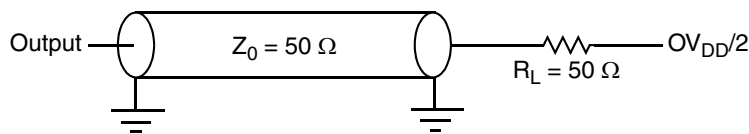

Figure 29. AC Test Load for the JTAG Interface
1. All outputs are measured from the midpoint voltage of the falling/rising edge of t_{TCLK} to the midpoint of the signal in question. The output timings are measured at the pins. All output timings assume a purely resistive 50-Ω load (see Figure 29). Time-of-flight delays must be added for trace lengths, vias, and connectors in the system.
2. The symbols used for timing specifications follow the pattern of $t_{\text{(first two letters of functional block)(signal)(state)(reference)(state)}}$ for inputs and $t_{\text{(first two letters of functional block)(reference)(state)(signal)(state)}}$ for outputs. For example, t_{JTDVXH} symbolizes JTAG device timing (JT) with respect to the time data input signals (D) reaching the valid state (V) relative to the t_{JTG} clock reference (K) going to the high (H) state or setup time. Also, t_{JTDXKH} symbolizes JTAG timing (JT) with respect to the time data input signals (D) went invalid (X) relative to the t_{JTG} clock reference (K) going to the high (H) state. Note that, in general, the clock reference symbol representation is based on three letters representing the clock of a particular functional. For rise and fall times, the latter convention is used with the appropriate letter: R (rise) or F (fall).
Figure 29 provides the AC test load for TDO and the boundary-scan outputs.